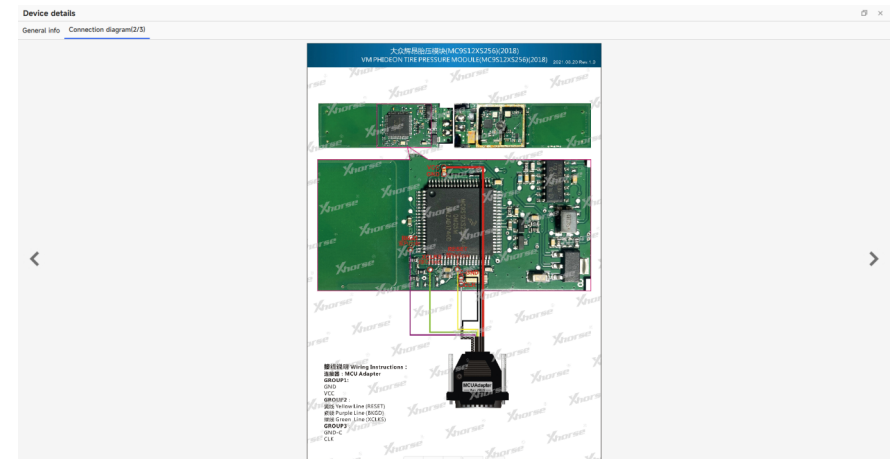

Figure 7.3.2
2. Solder the MCU cable to the module according to the diagram, and then connect the device, as shown in Figure 7.3.2.